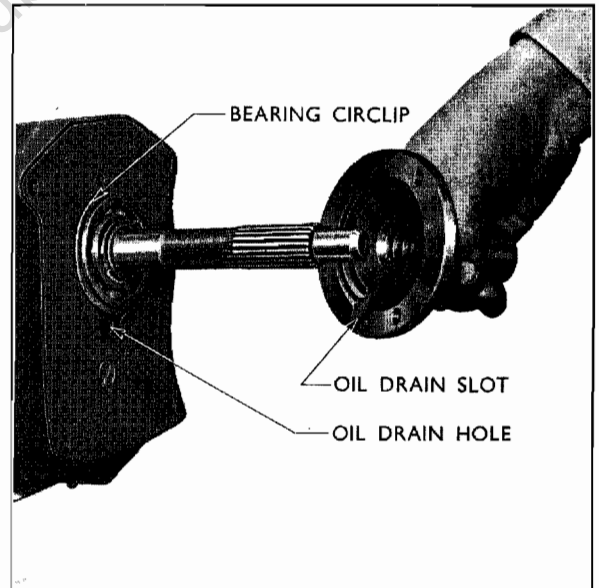

Fig. 20
9. Fit the main drive gear bearing retainer. Place a new gasket on the gearbox front face and ensure that the oil groove in the retainer is in line with the oil passage in the gearbox casing and the gasket does not cover this passage (see Fig. 20). Secure the retainer with three bolts and lockwashers.